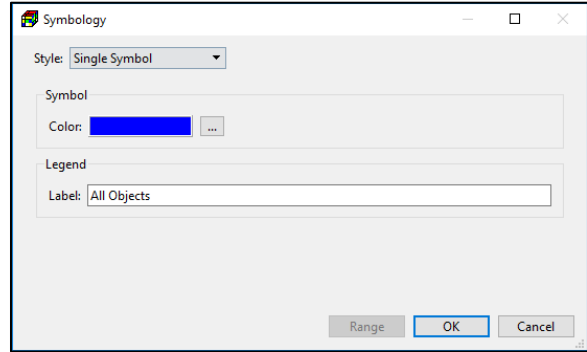

Figure 10. The Symbology dialog box - Single Symbol
1. **Single Symbol** (Figure 10): This is the default style and the easiest way to change the color of a shapefile.